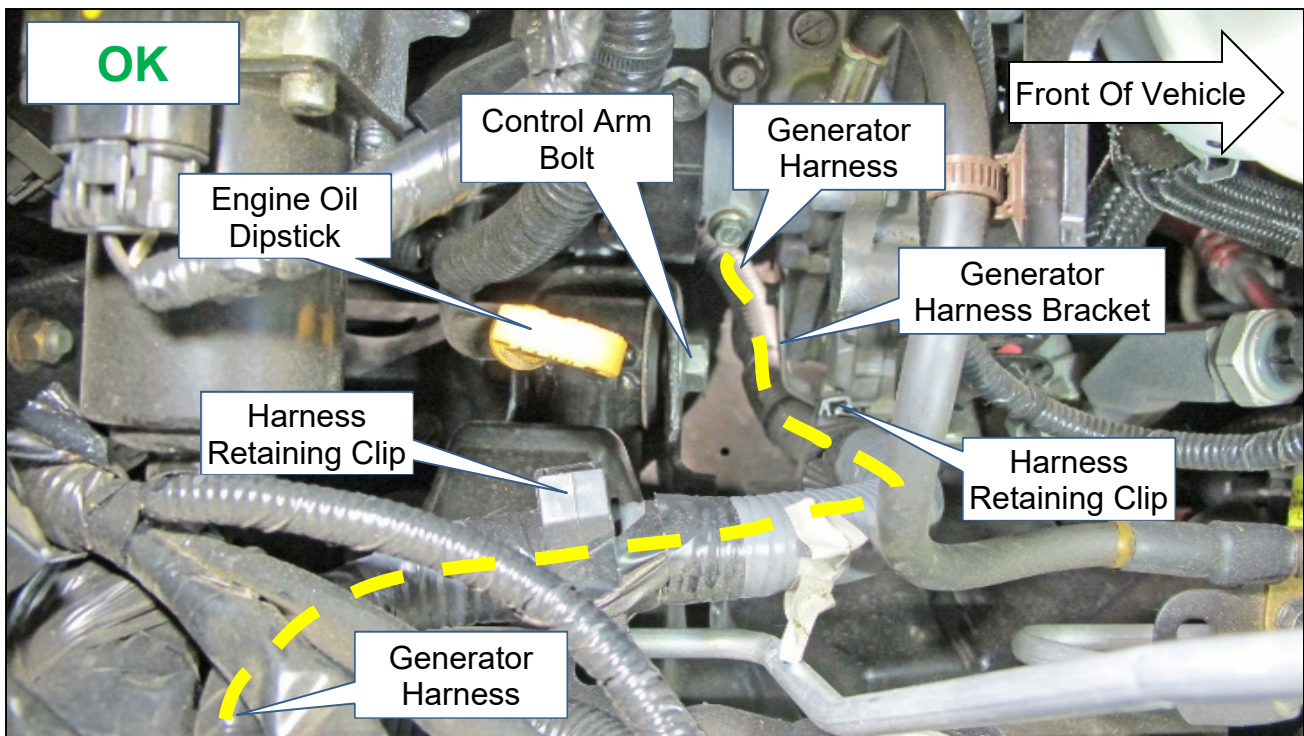

Figure 2
4. Visually inspect the generator harness routing (Figure 2 shows a properly routed generator harness).